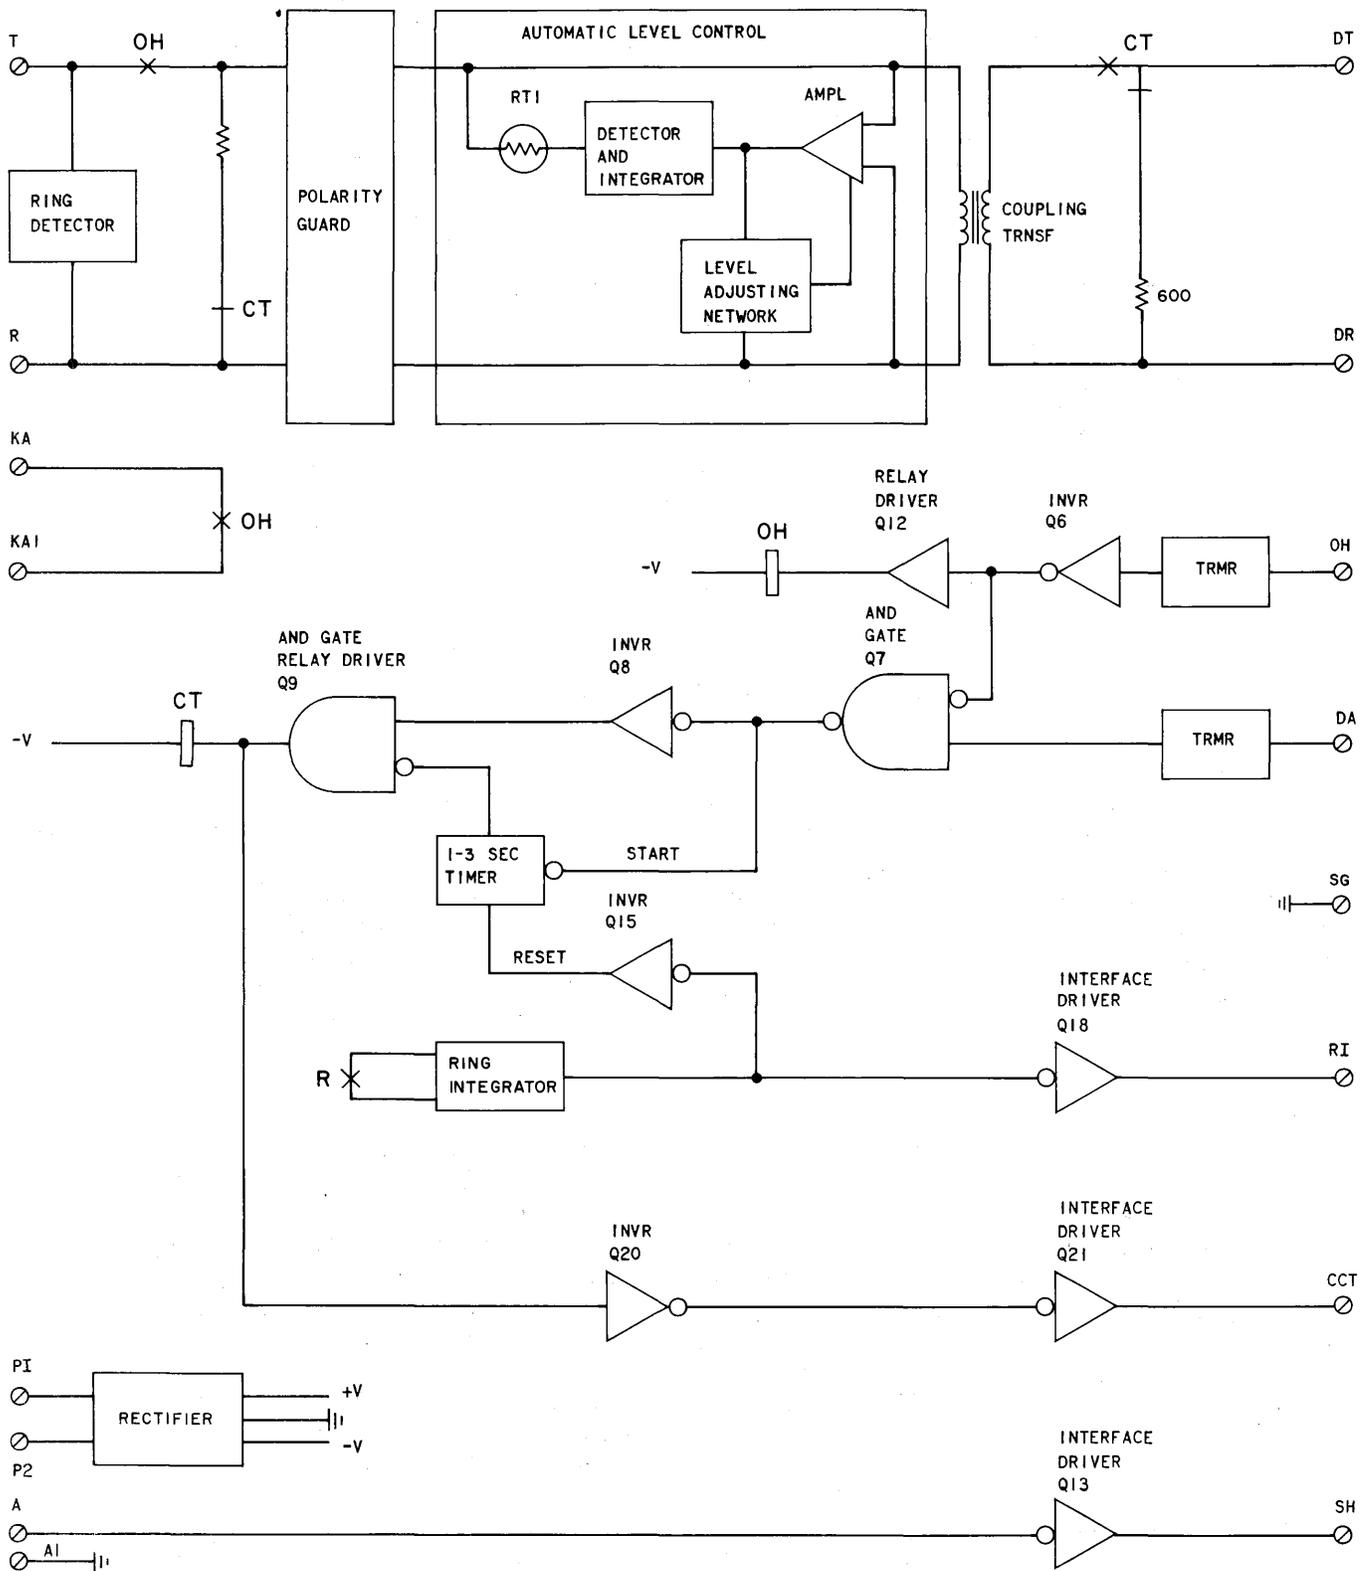

Fig. 3—Functional Schematic of 1001A Data Coupler—Data Mode
2.09 Coupler Transmission Path: The coupler transmission path primarily consists of a coupling transformer, an ALC circuit, and a polarity guard (Fig. 3). The transformer terminates the telephone loop and provides a 2-way protective function (ie, hazardous voltages, surge protection, and longitudinal isolation). The ALC circuit prevents the customer signal level from exceeding the prescribed maximum limit. The polarity guard maintains the polarity of the line current and voltage required by the ALC circuit.
2.12 Ring Detection: The ring detector (Fig. 3) is activated when 20-Hz ringing signal is present on the line, indicating an incoming call. The R relay, part of the ring detector, operates and releases in response to each half cycle of ringing current. Contact closures of the R relay contact are used to drive the ring integrator (RI) circuit. After approximately 2 cycles of 20-Hz ringing signal are detected by the RI circuit, it operates to reset the 2-second call timer through inverter Q15 and to operate the Q18 interface driver.